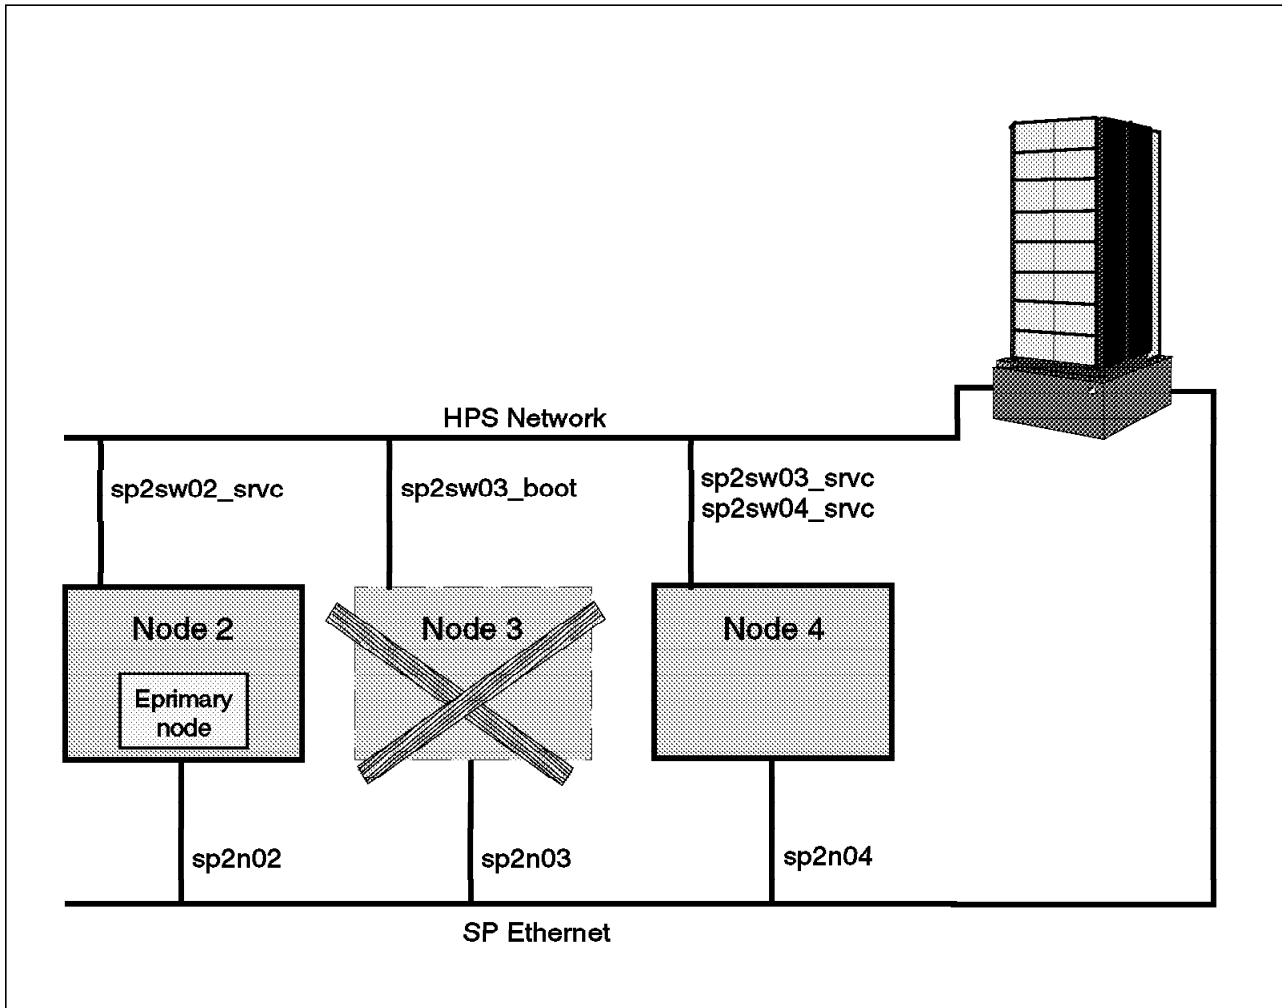

Figure 33. Expected Behavior of the Cluster after sp2n03 is Down
- The pictorial presentation of the expected behavior is shown in Figure 33.